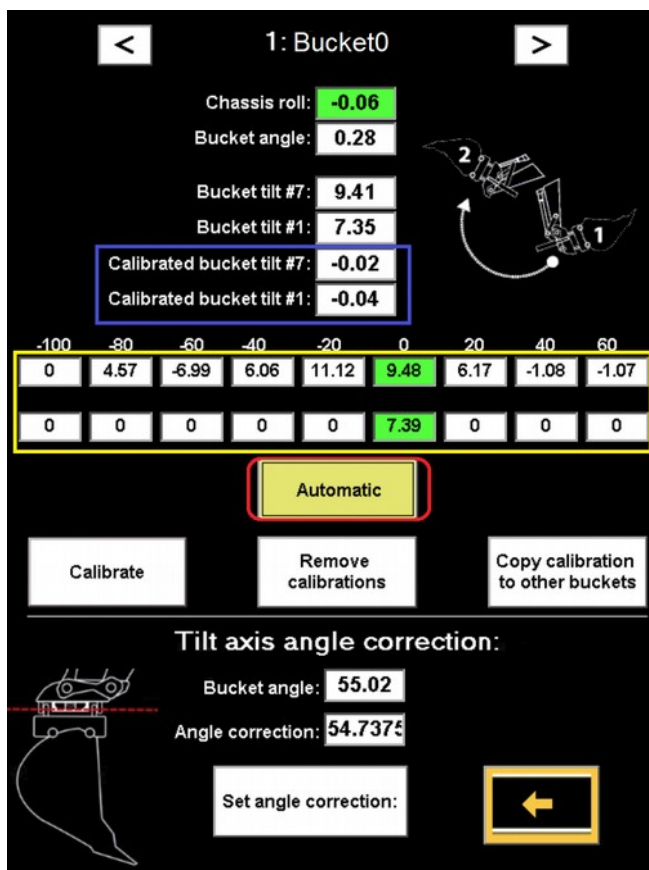

Fig. 36 Tilt bucket calibration
5. Select “Automatic” (Fig 36)
- All calibration fields must have green background after calibration. Fields are highlighted by yellow rectangle (Fig 36).